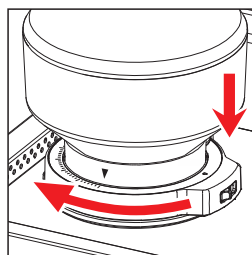

Figure 3
5. To mount the bean hopper, align the arrow on the hopper with the arrow on the top of the grind cartridge and turn clockwise to lock. (Figure 3).